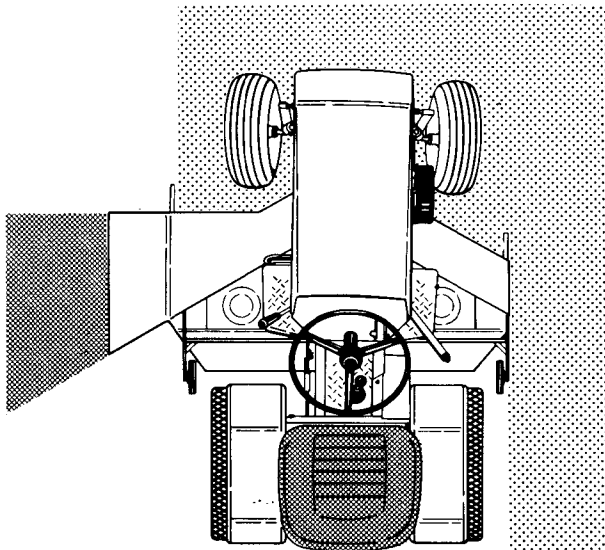
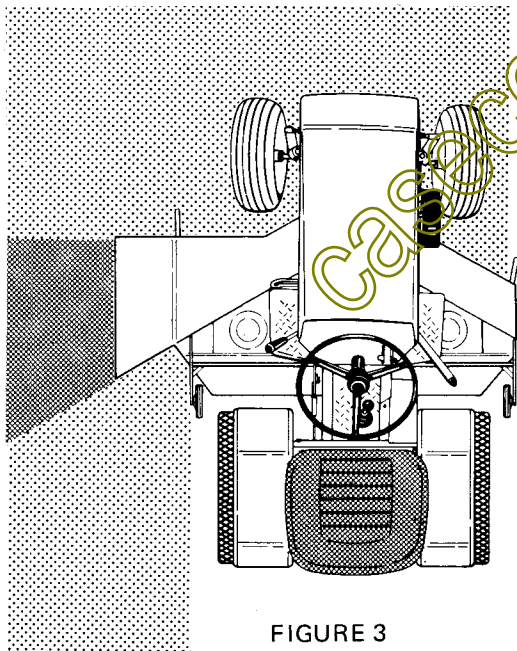

FIGURE 2
FIGURE 3
4. Figures 2 and 3 illustrate two systems for mowing. If the grass is high or heavy, always mow to throw the clippings away from the uncut area. Figure 2. If the grass is light and more thorough mulching is desired, discharge the clippings toward the center of the uncut area, Figure 3. When mowing in this manner, a final strip of mulched clippings about three to four feet wide will remain near the center of the lawn. This can be easily swept up to leave a well groomed appearance.